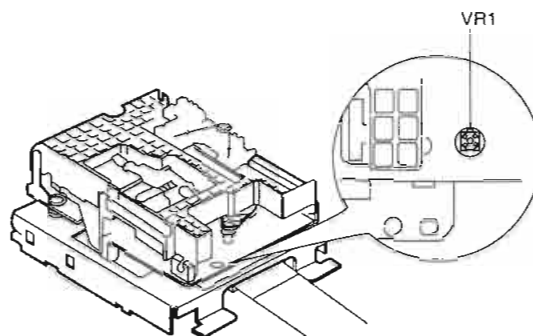

Fig. 15
(Refer to Fig. 15.)
6. Confirm that the reading of the laser power meter or cartridge type laser power meter is within the specified range. If it is not within the specified range, adjust by turning VR1. (Refer to Fig. 15.)